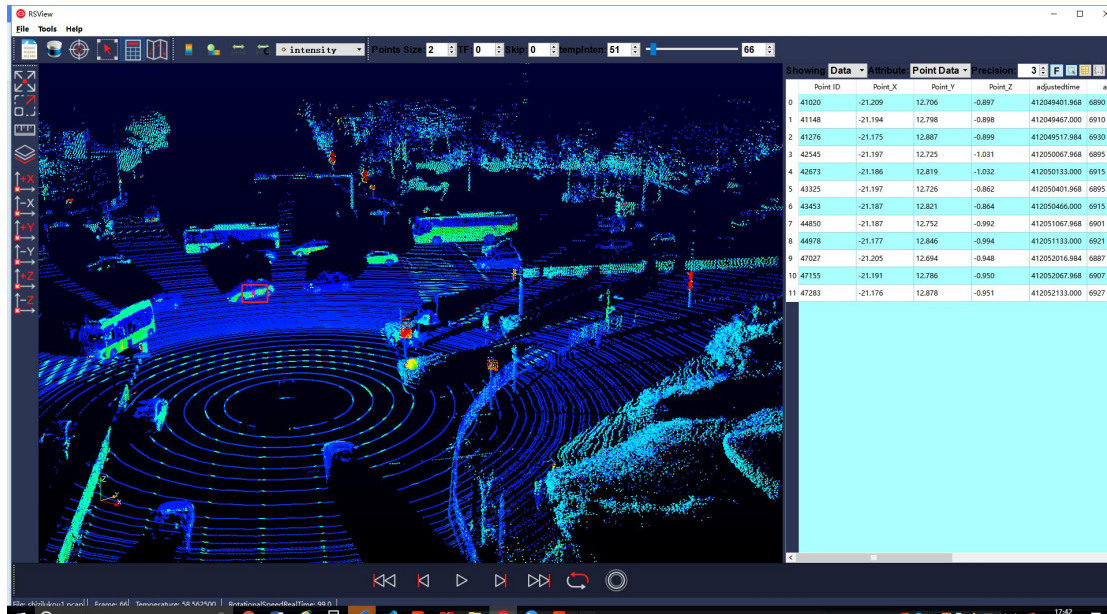

Figure C-14 RSView List Selected Points Tool
9. In the 3D rendered data pane, use your mouse to draw a rectangle to frame some data points. The data of these points will immediately populate the data table and the selected data points will turn pink in the data pane (Figure C-14).